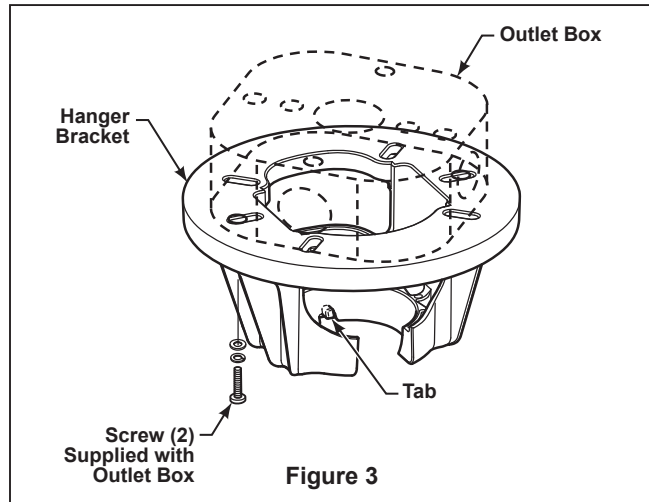
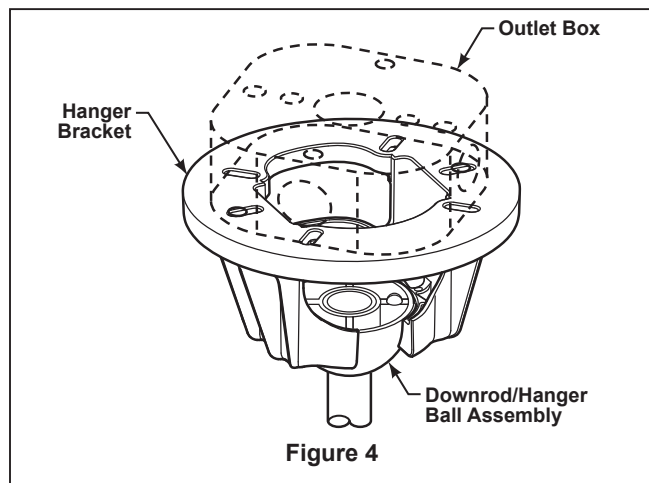

Figure 3
Figure 4
1. Securely attach the hanger bracket to the outlet box using the outlet box screws and washers supplied with the outlet box (Figure 3).
**NOTE:** Outlet box screws pass through slotted holes of the hanger bracket (Figure 3).
3. Carefully lift the fan and seat the downrod/hanger ball assembly on the hanger bracket that was just attached to the outlet box (Figure 4). Be sure the groove in the ball is lined up with tab on the hanger bracket (Figure 3).